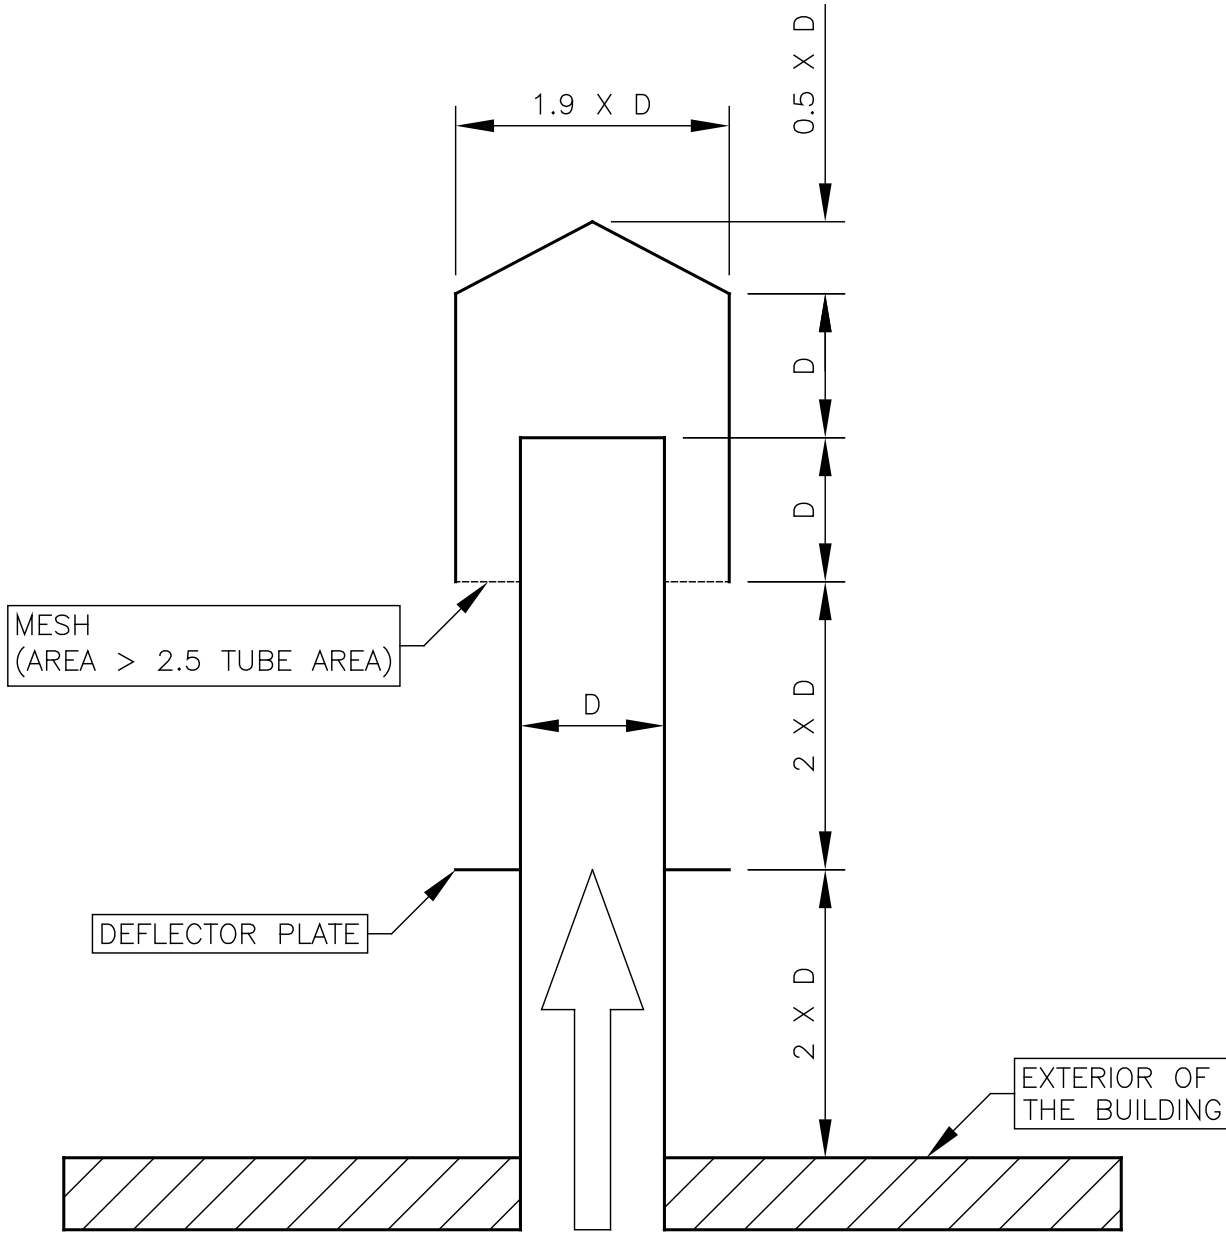

FIGURE 4 - QUENCH LINE OUTLET TO ATMOSPHERE - VERTICAL
- WHERE THE QUENCH LINE EXITS VERTICALLY THROUGH A FLAT ROOF, THE OUTLET MUST BE ABOVE A LEVEL WHERE WATER COULD ENTER IT IN THE EVENT OF THE ROOF DRAINS BECOMING BLOCKED. WHERE THE QUENCH LINE EXISTS VERTICALLY, A RAIN SHIELD MUST BE FITTED (**FIG. 4**).
- A DEFLECTOR PLATE MUST BE WELDED TO THE LINE WHERE IT EXITS THE ROOF TO PREVENT HELIUM FROM RE-ENTERING THE BUILDING. THE DEFLECTOR PLATE MUST BE AT LEAST THE SAME DIAMETER AS THE RAIN GUARD. IT MUST BE LOCATED AT LEAST TWO LINE DIAMETERS ABOVE THE ROOF, AND TWO DIAMETERS BELOW THE BOTTOM OF THE RAIN GUARD (**FIG. 4**).